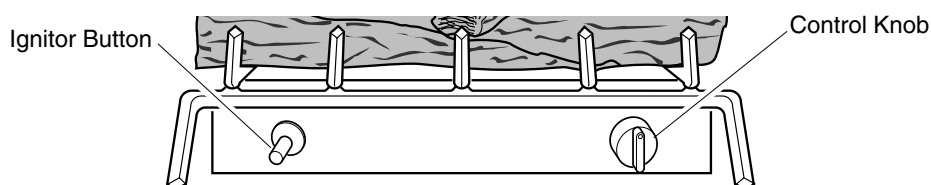

Figure 22 - Control Knob and Ignitor Button Location
4. Wait five (5) minutes to clear out any gas. Then smell for gas, including near the floor. If you smell gas, **STOP!** Follow “B” in the safety information above. If you don’t smell gas, go to the next step.
5. Press in control knob and turn counterclockwise  to the PILOT position. Keep control knob pressed in for five (5) seconds (see Figure 22).